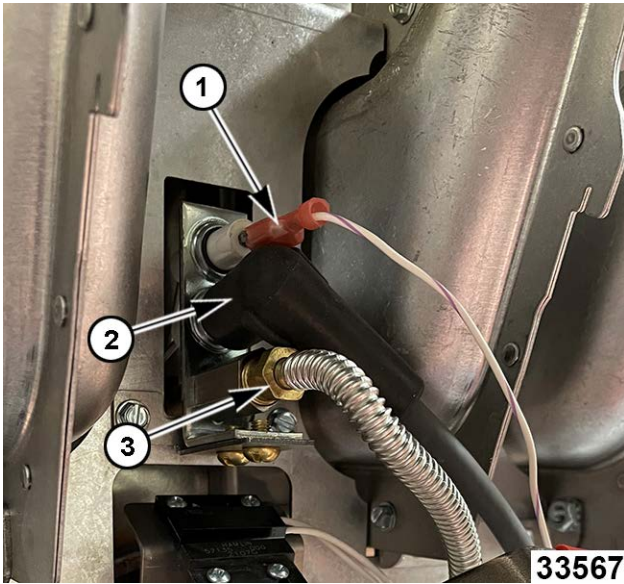

Fig. 30
1. Disconnect flame sense wire (1, Fig. 30) from flame sensor terminal.
2. Remove electrode cable (2, Fig. 30).
3. Disconnect pilot gas tube. (3, Fig. 30).